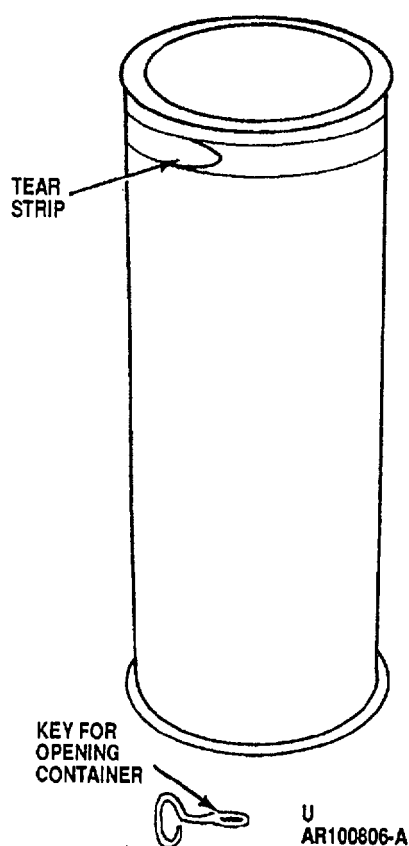
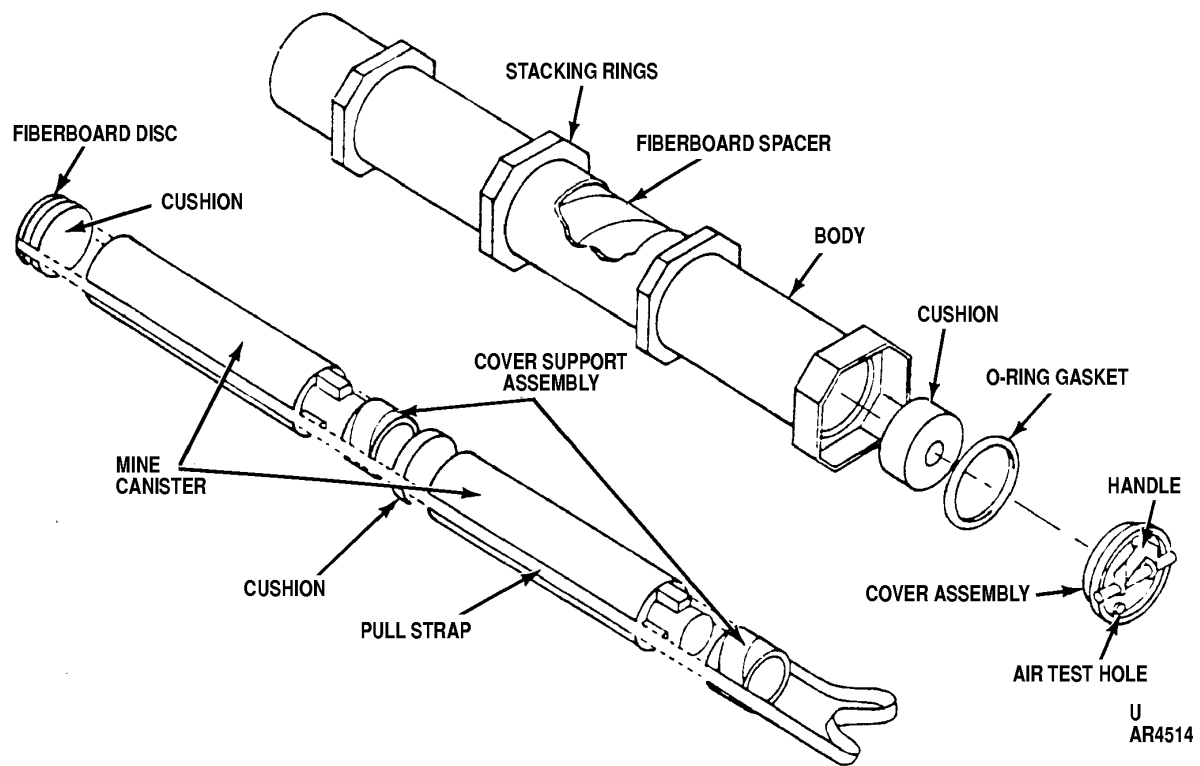

Figure 3-4. Ammunition metal container.
Figure 3-5. Mine canister metal container.
- (1) Cut barrier bag open along the edge with most excess material as close to seal as possible.
- (2) Cut or remove tape from inner container.
- (3) Open container and remove padding, if any.
- (4) Remove items. If all items are not removed, close and seal package following procedures in Chapter 4.
g. *Ammunition Metal Container (fig. 3-4).*
- (1) Using key attached to container (or from another container), remove sealing strip.
- (2) Remove top of can.
- (3) Remove any padding from container.
- (4) Remove contents.
h. *Mine Canister Metal Container (fig. 3-5).*
- (1) Cut metallic seals with pliers and remove.
- (2) Rotate cover and remove.
- (3) Remove cushion.
- (4) Untighten strap.
- (5) Pull strap and remove contents.